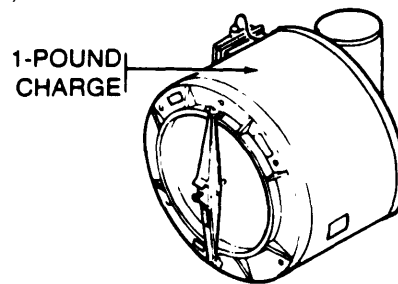

Figure 3-26. Explosive Charge Location for Filter Unit - M56 Gas-Particulate Filter Unit.
(1) Filter unit. Place 1-pound charge on top (fig 3-26).